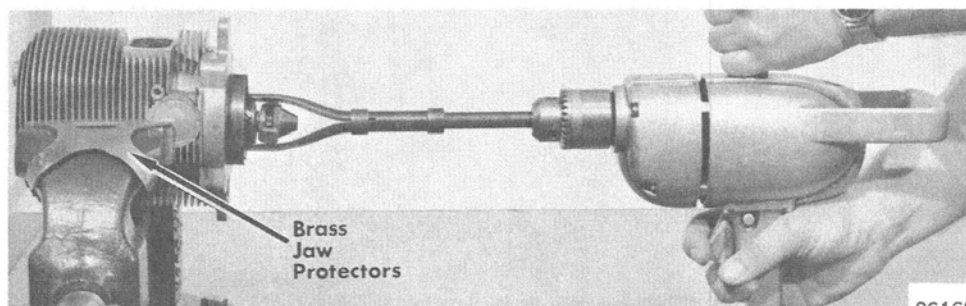

Figure 2.
3. When finish-honing a cylinder bore, move up-and-down at sufficient speed to obtain very fine uniform surface finish marks in a cross-hatch pattern of approximately 45° to 65° included angle. Finish marks should be clean but not sharp, free from imbedded particles and torn or folded metal. (Figure 2)